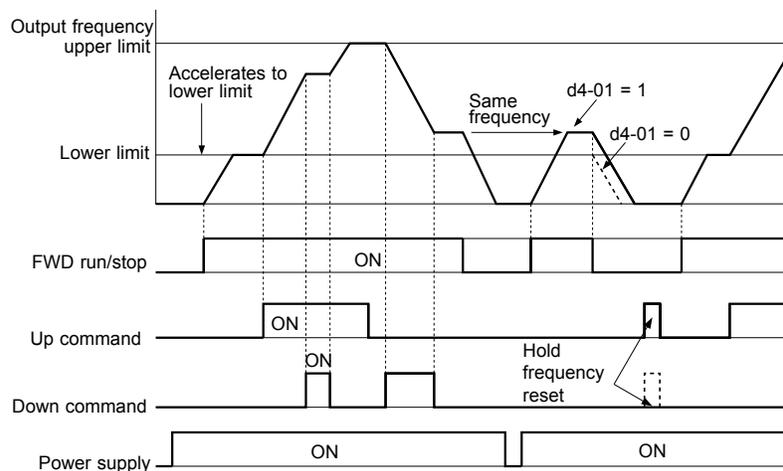

Figure 1.33 Up/Down Command Operation
*Figure 1.33* shows an Up/Down function example with a lower frequency reference limit set by d2-02, and the frequency reference hold function both enabled and disabled.